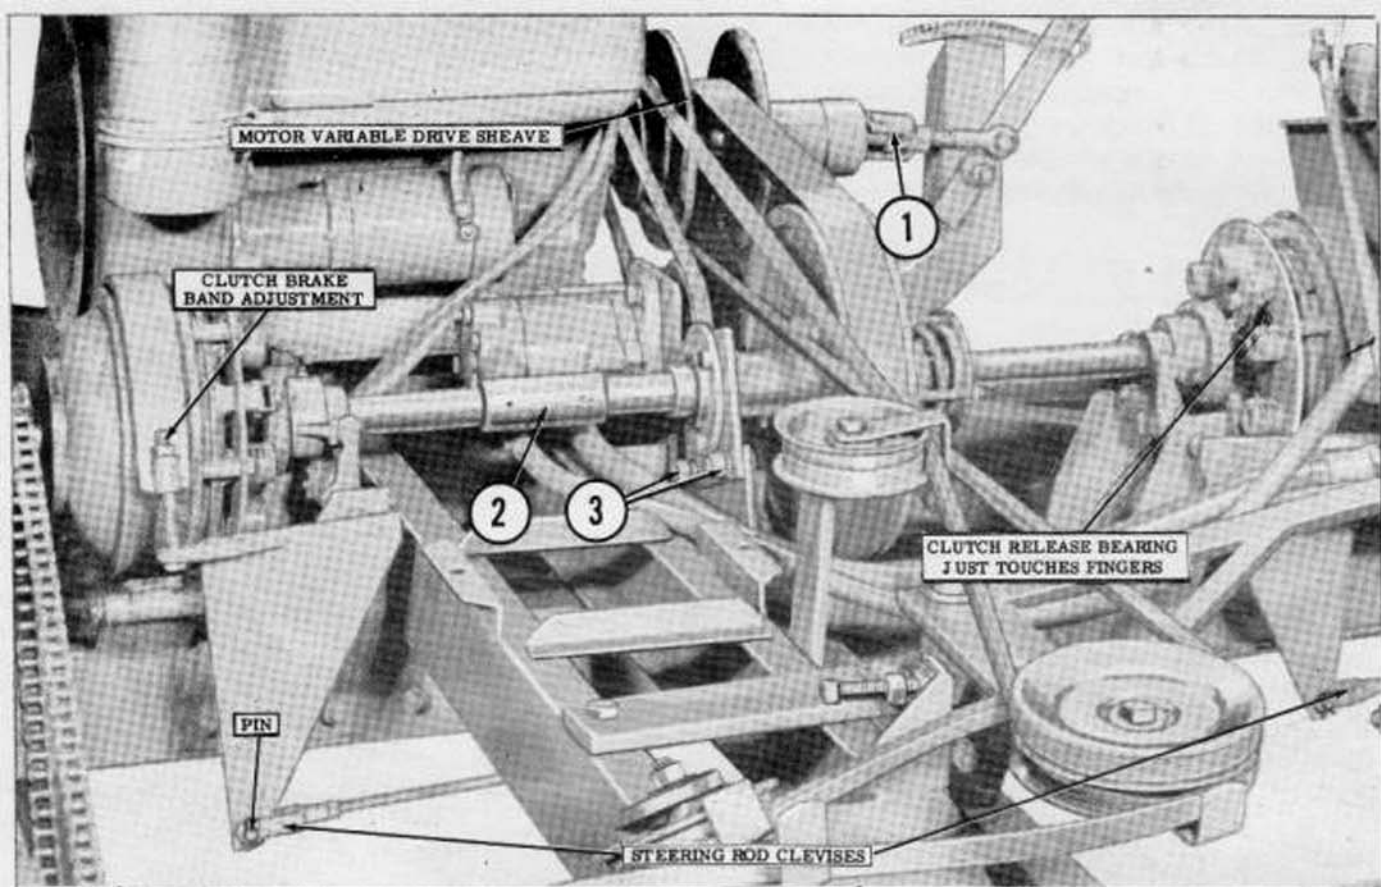

Figure 6
- b. Remove the pin from each steering rod clevis (Figure 6) and adjust the clevises until a slight pressure must be exerted on the clutch release pivot arms to
- b. Readjust the clutch brake bands on each clutch by means of the adjusting bolts (see Figure 6) until a slight drag is noticeable. With the clutch brakes adjusted in this manner, the brake bands should just clear the clutches slightly when the steering control levers are placed in the full neutral position.
- a. Remove the bolt and self-locking nut from the motor variable drive sheave adjusting clevis (1), Figure 6, then remove the sliding section of the variable drive sheave.
- b. Remove the roll pins from the main drive shaft coupling (2), Figure 6, and slide the coupling to the right looking at the picture. Remove the two hex head bolts, lock washers and nuts (3) which hold the Flangette bearing bracket in place and rotate the bracket to the top side of the shaft.
- c. Remove the main drive belt from the motor variable drive sheave, then pass it under the Flangette bearing bracket at (3), Figure 6, and remove it through the opening in the shaft at (2).